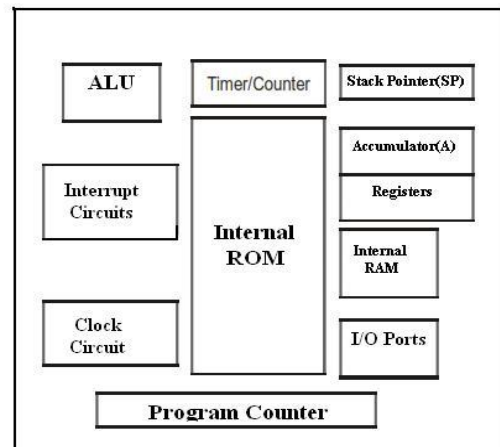

Fig.4.2 Block Diagram of a Microcontroller
- ❖ The block diagram of Microcontroller is shown in Fig.4.2.